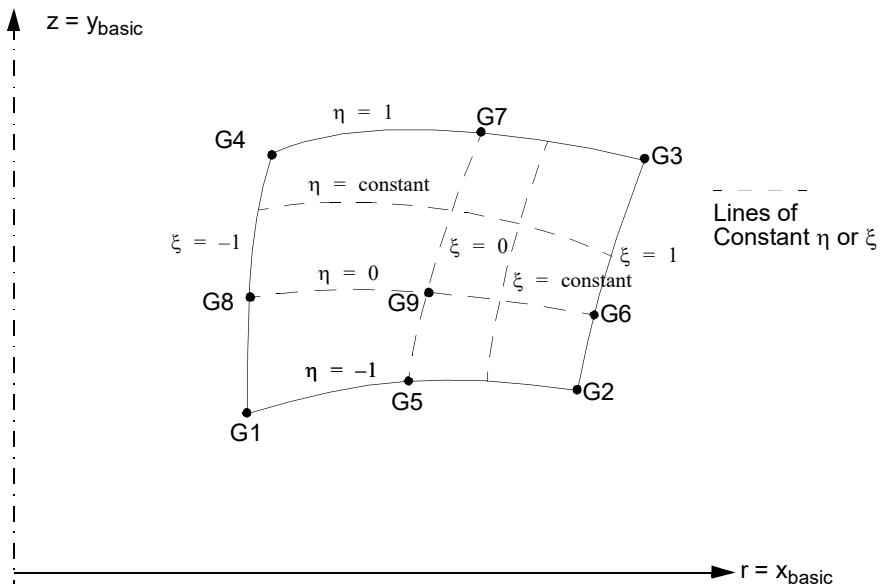

Figure 9-56 CQUADX Element Coordinate System
3. Gi must be numbered as shown in Figure 9-56.